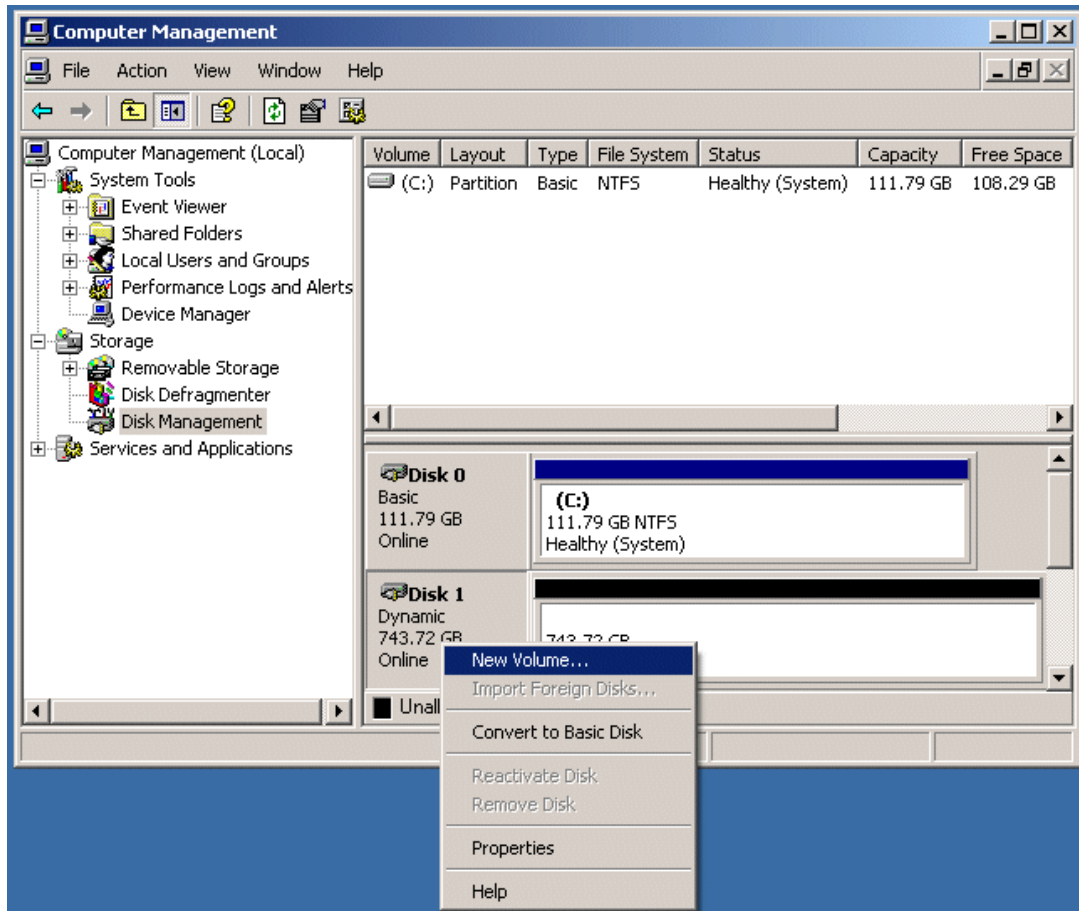

Figure 3-27. Select the New Volume option
22) Now, right-click on the **Disk 1** item in the lower-right-hand portion of the screen, and then select the **New Volume** option from the ensuing pop-up menu as shown in Figure 3-27.